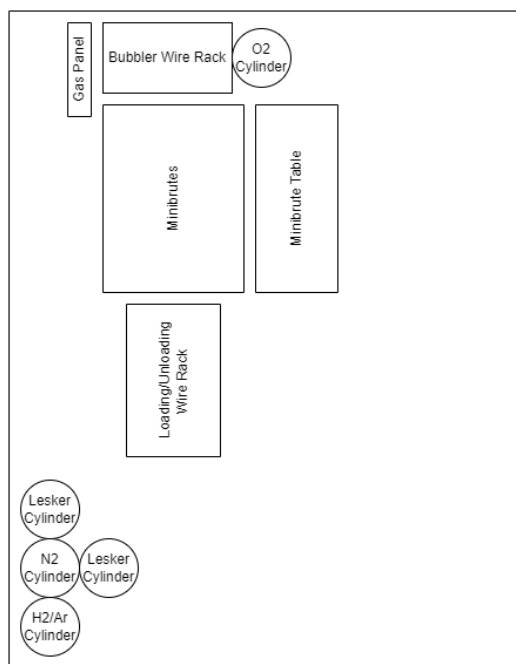

Figure 10: Overhead Layout of the Minibrute System
- The locations of the cylinders and the panel are shown below (Figure 10).